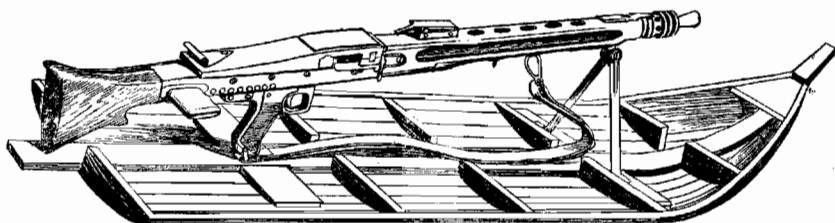

Figure 3.—Pulk Used for Winter Transport of German Heavy Machine Gun.
In Russia the Germans are using a new armored self-propelled gun, which bears at least an outward resemblance to the Pz. Kw. 6, the German tank often referred to as the "Tiger."2 The new self-propelled gun (see fig. 3) mounts an 88-mm cannon in a fixed turret, and has an over-all weight of 70 tons. Its maximum speed is reported to be not more than 12 miles per hour.
(4) *Heavy Machine Gun*.—The heavy machine gun is carried in the usual manner or is loaded on a small sleigh, skis, or a pulk. A pulk (see fig. 3) is a type of sled used by the Lapps; its front half somewhat resembles that of a rowboat.